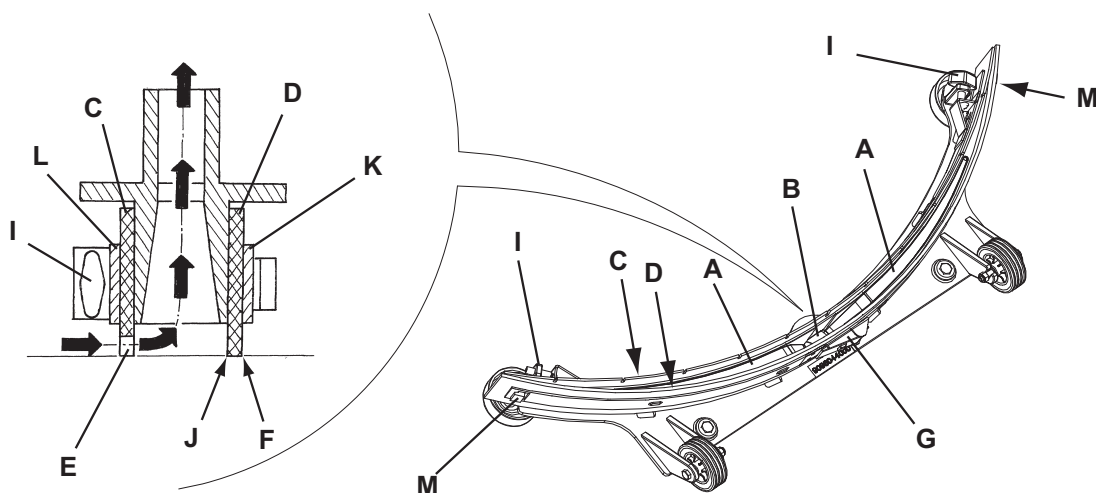

Figure 3
2. Disconnect the power supply cable (3) from the electrical mains and place it on the holder (4).
3. Lower the squeegee (21) with the lever (7).
4. Loosen the handwheels (22) and remove the squeegee (21).
5. Disconnect the vacuum hose (11) from the squeegee.
6. Clean the steel squeegee (Fig. 2) or the aluminium squeegee (Fig. 3). Clean the compartments (A, Fig. 2 or 3) and the hole (B) especially. Check the front blade (C) and the rear blade (D) for integrity, cuts and tears; if necessary replace them (see the procedure in the following paragraph).
1. Clean the squeegee (Fig. 3) as shown in the previous paragraph.
2. Check that the edge (E, Fig. 3) of the front blade (C) and the edge (F) of the rear blade (D) lay down on the same level, along their length; otherwise adjust their height according to the following procedure:
- Remove the tie rod (G), disengage the retainers (M) and adjust the rear blade (D); then engage the retainers and install the tie rod.
- Loosen the handwheels (I) and adjust the front blade (C); then tighten the handwheels.
3. Check the front blade (C) and rear blade (D) for integrity, cuts and tears; if necessary replace them as shown below. Check that the front corner (J) of the rear blade is not worn; otherwise, overturn the blade to replace the worn corner with an integral one. If the other corners are worn too, replace the blade according to the following procedure:
- Remove the tie rod (G), disengage the fasteners (M) and remove the retaining strip (K), then replace/overturn the rear blade (D). Install the blade in the reverse order of removal.
- Unscrew the handwheels (I) and remove the retaining strip (L), then replace the front blade (C). Install the blade in the reverse order of removal.